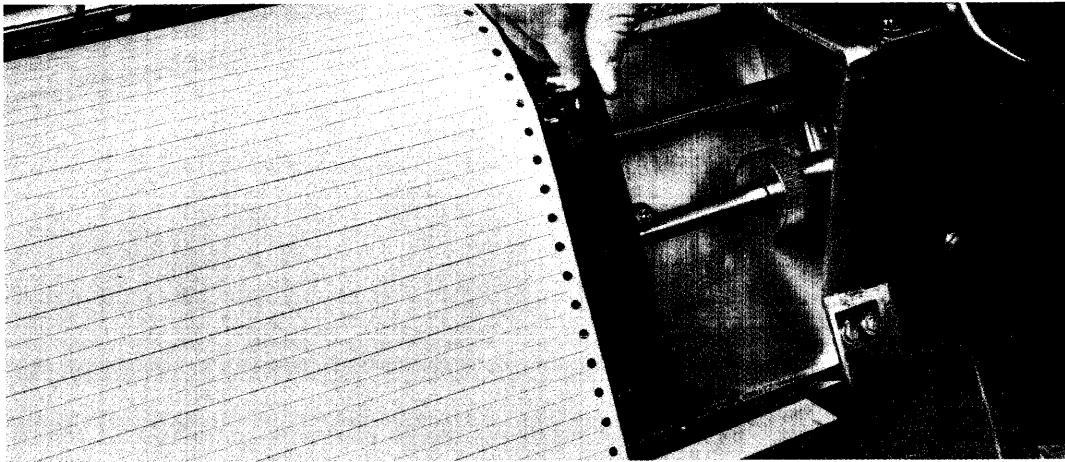

Figure 3-5. Tractor Adjustment
7. Align the paper feed holes with the left tractor pins and close the left tractor cover. Slide the right tractor until the paper feed holes are aligned with the right tractor pins and close the right tractor cover. (Refer to Figure 3-5.)